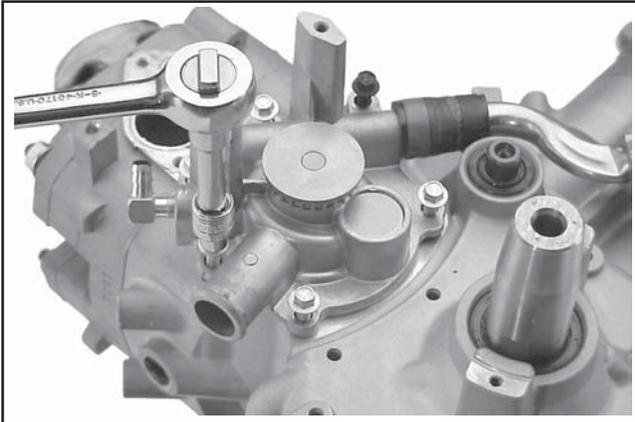

Figure 9-48. Removing Water Pump Screws.
2. Remove the six screws securing the water pump to the crankcase. See Figure 9-48.